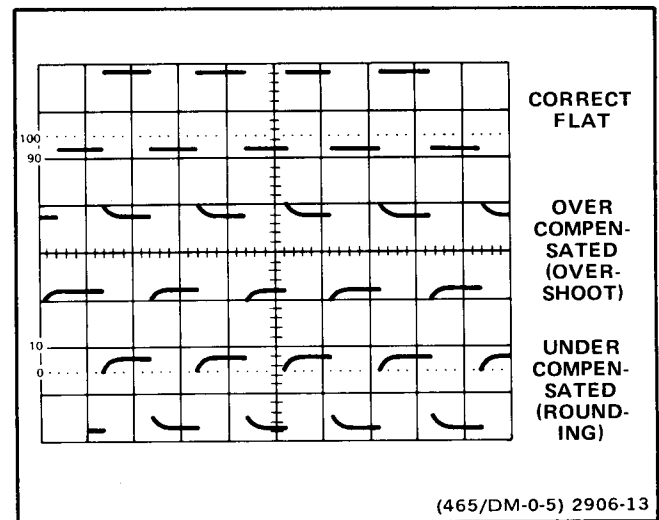

Figure 2-17. Probe compensation.
6. Check the waveform display for overshoot and rounding (see Figure 2-17). If necessary, use a small-bladed screwdriver to adjust the probe compensation for a square front corner on the waveform.